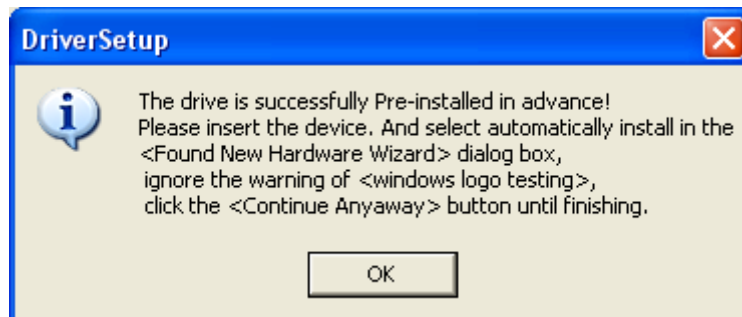

Figure 1-12
**Step 3 :** When automatic installation is complete, as indicated by the pop-up box in Figure 1-12, click **OK** in Figure 1-13. Your USB driver is now successfully installed on your computer and ready for use.